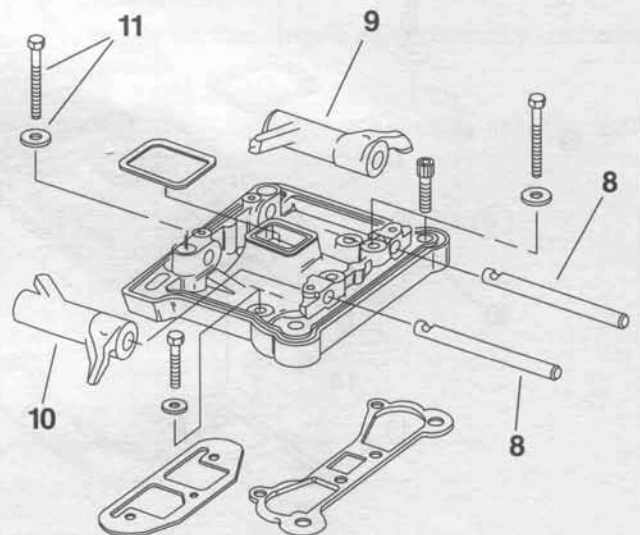

Figure 3-7. Rocker Arm Retaining Bolts
4. See Figure 3-7. Remove the rocker arm retaining bolts (11) and washers nearest the rocker arm shafts at the push rod end.
5. See Figure 3-7. Mark rocker arm shafts (8) so they will be assembled in their original locations, then remove them by tapping them out with a hammer and soft metal punch.